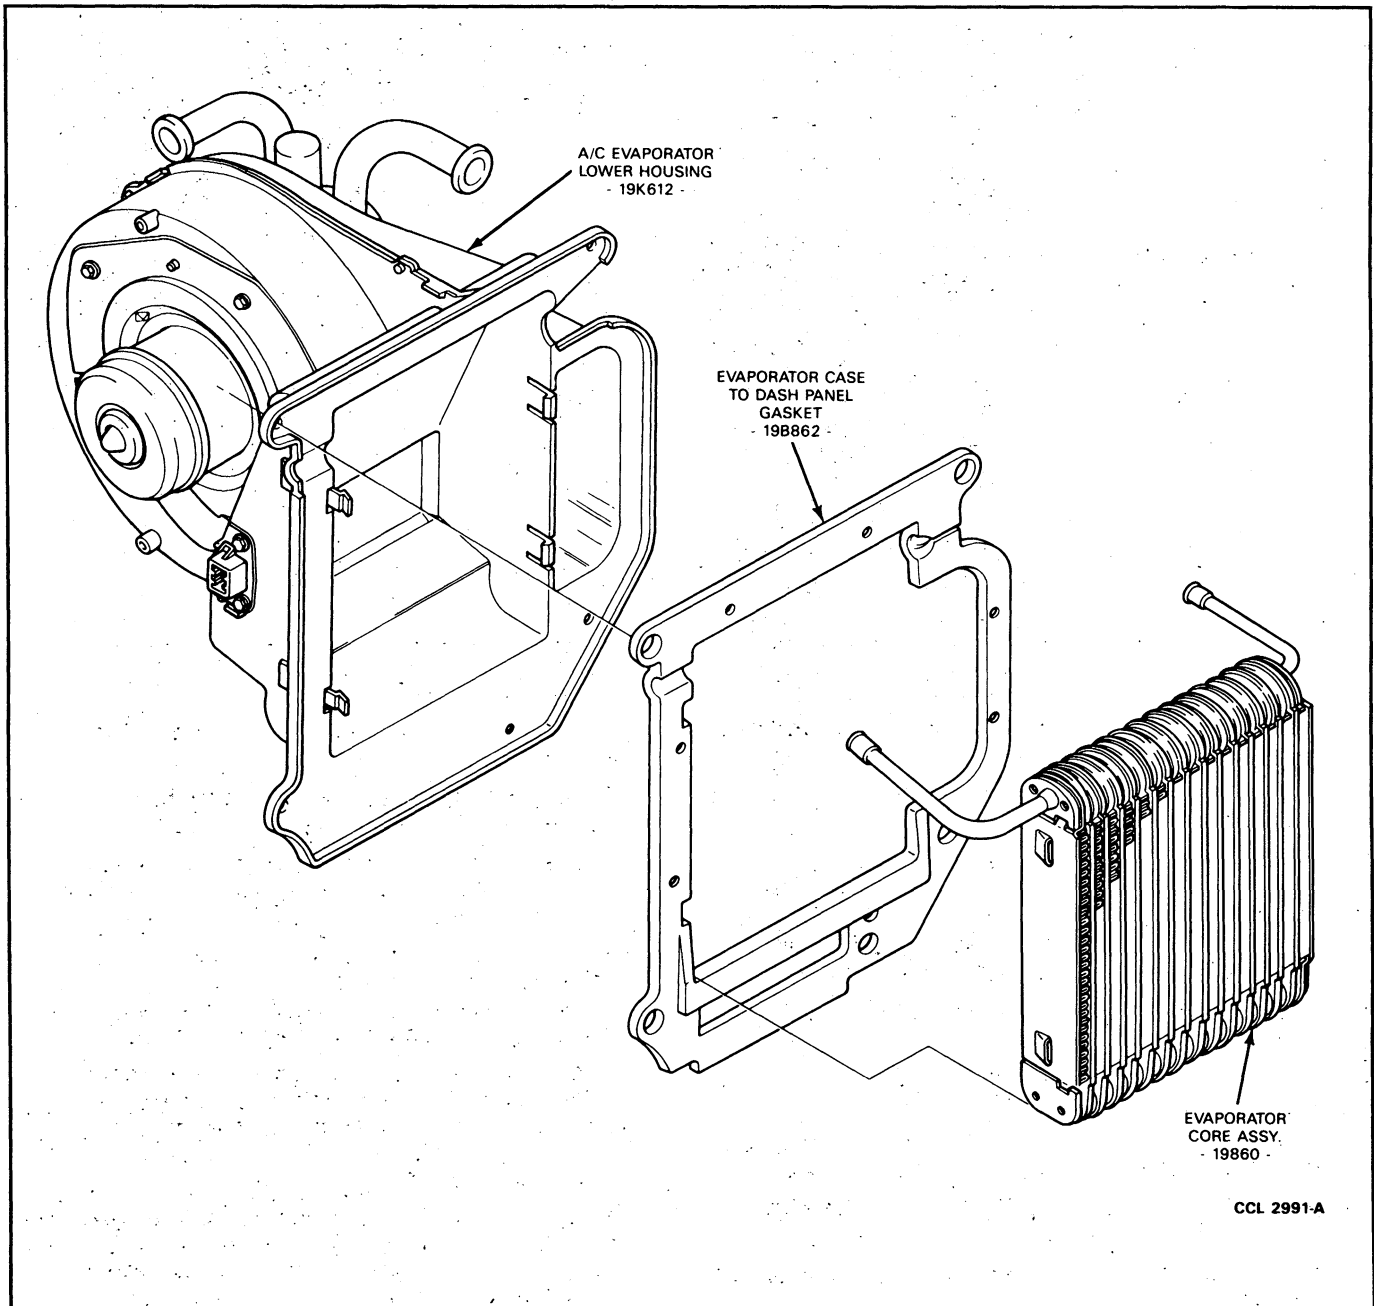

FIG. 30 Suction Accumulator/Drier
5. Remove heater core and seal from case (Fig. 30).
7. Remove five nuts retaining evaporator assembly to dash and remove evaporator assembly (Fig. 30).
4. Position evaporator assembly against the dash and secure with five nuts (Fig. 30).